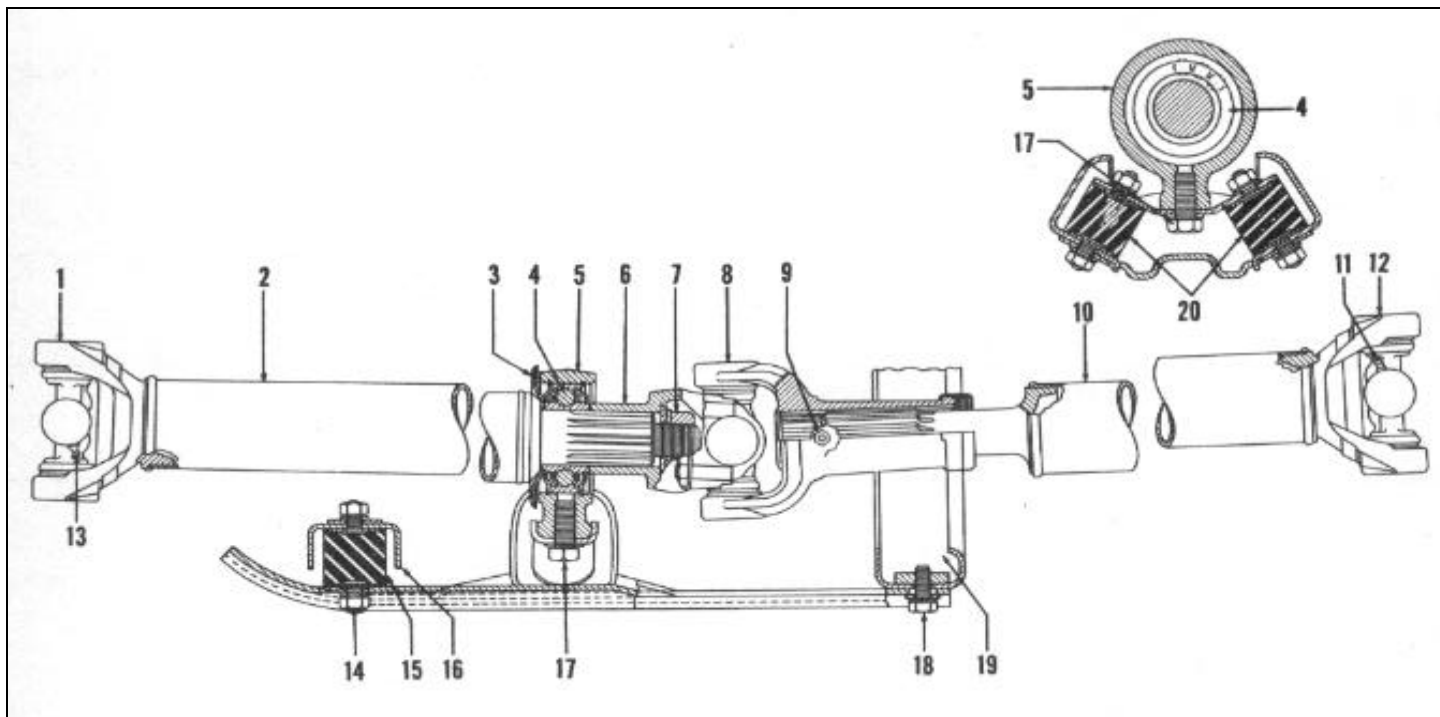

FIGURE 1
2. Remove the three attaching bolts from the propeller shaft center bearing support to frame cross member, Figure 1.